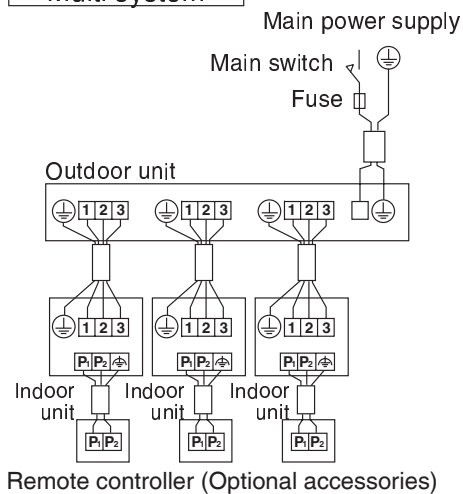

Fig. 25
- **Multi system:** 1 through 4 indoor units connect to 1 outdoor unit. The indoor unit is controlled by remote controller connected to each indoor unit. (Refer to Fig. 25)